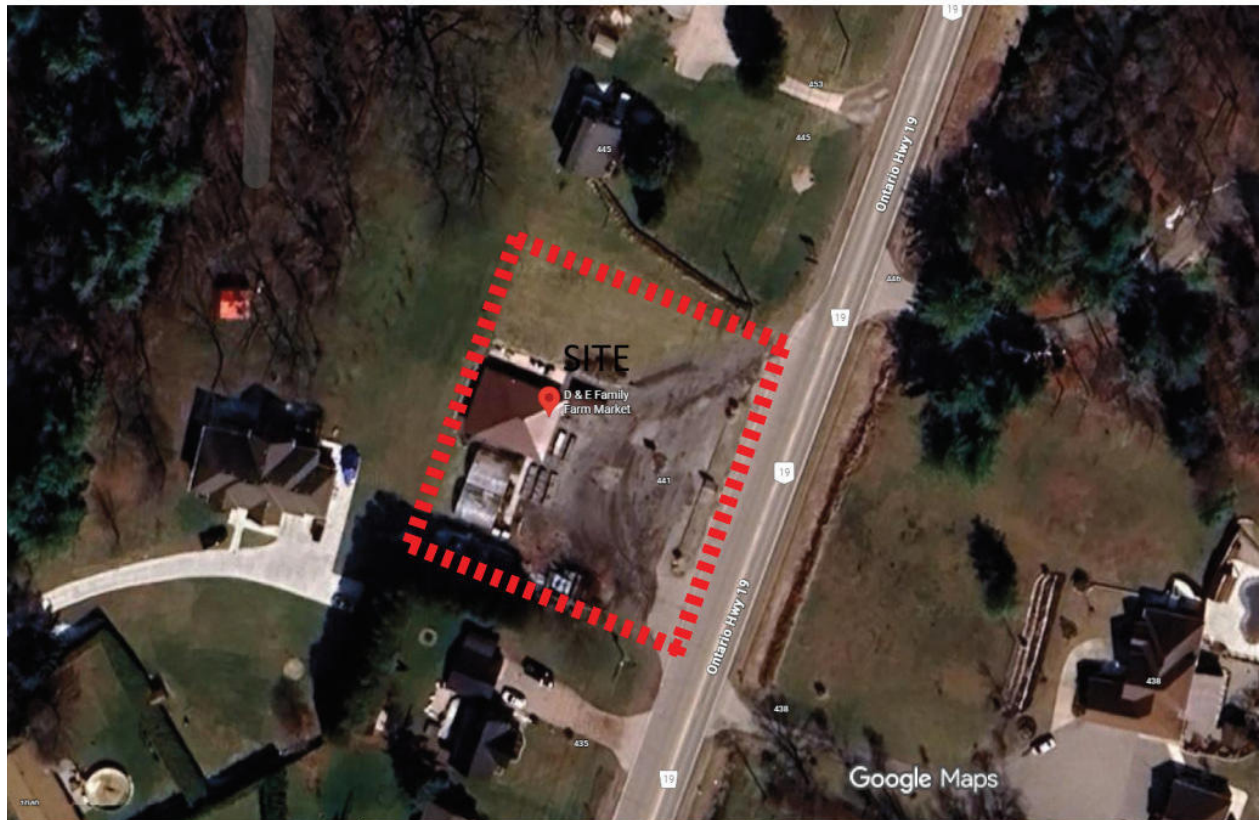

Figure 1. Site location (Source: Google Maps)
The site (Figure 1) is located on the West side of Vienna Road, North of Laplante Road and South of Michael's Lane. The legal description of the property is Part of Lot 6, Concession 4 North of Talbot Road, in the Geographic Township of Middleton, Norfolk County. It is a Rural Commercial (CR) zoned property that currently has a single storey market building, two greenhouses, and a shed building. The site is a 2,640.71m² (0.2641Ha) site which is bordered by Vienna Road to the East, and residential lands to the North, South and West. Under the pre-development conditions, the subject site is split with a little less than half of the site area as open green space, with the buildings and parking areas making up the remainder of the site area. The site drains from the West to the East where most run-off is collected in the two